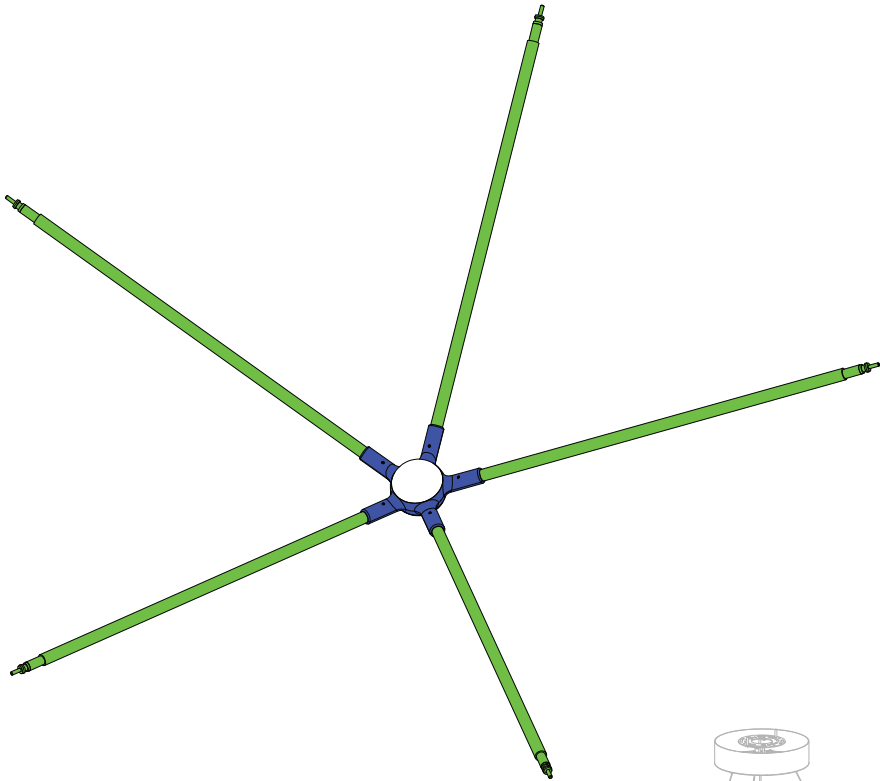

Fig. 2
- a. Attach all C1 arms to an H5 Hub, as shown in Fig. 2.